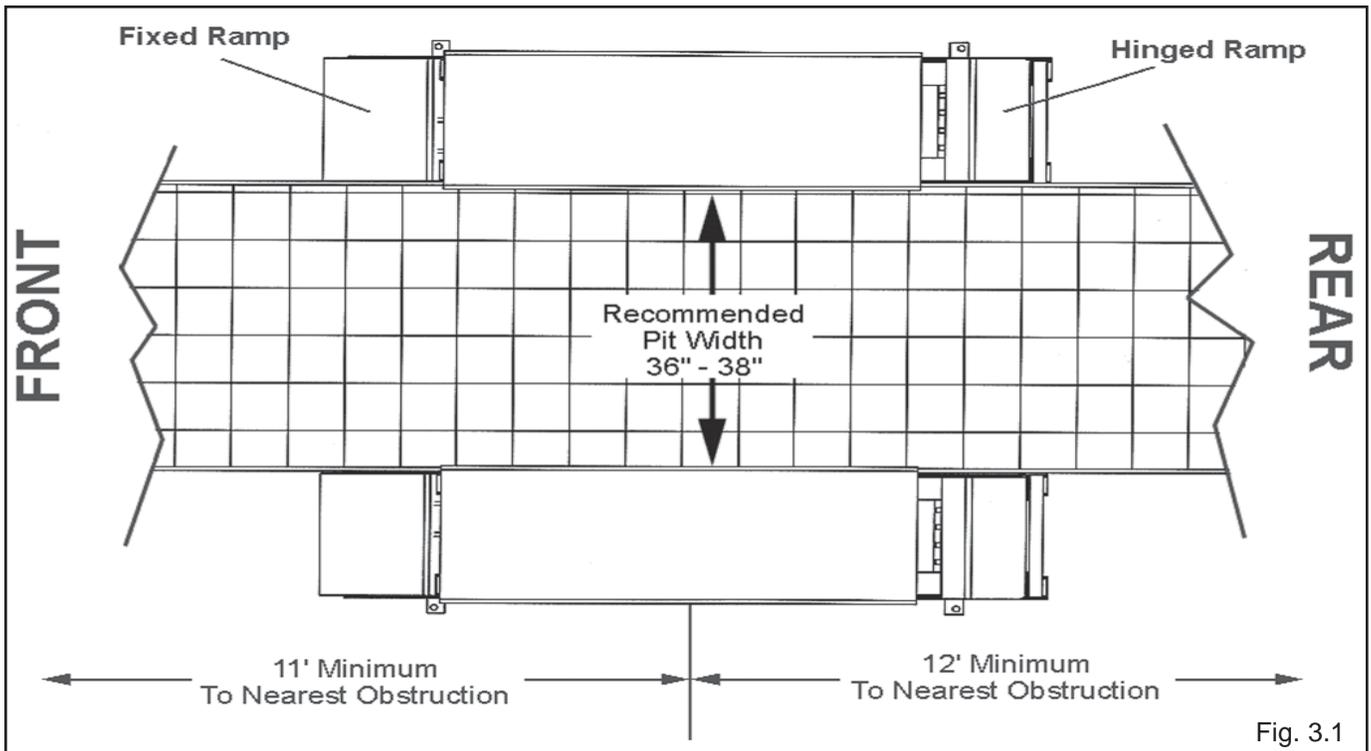

Fig. 3.1
1. Before selecting an installation site, check for proper clearance and/or obstructions. (See Fig 3.1)